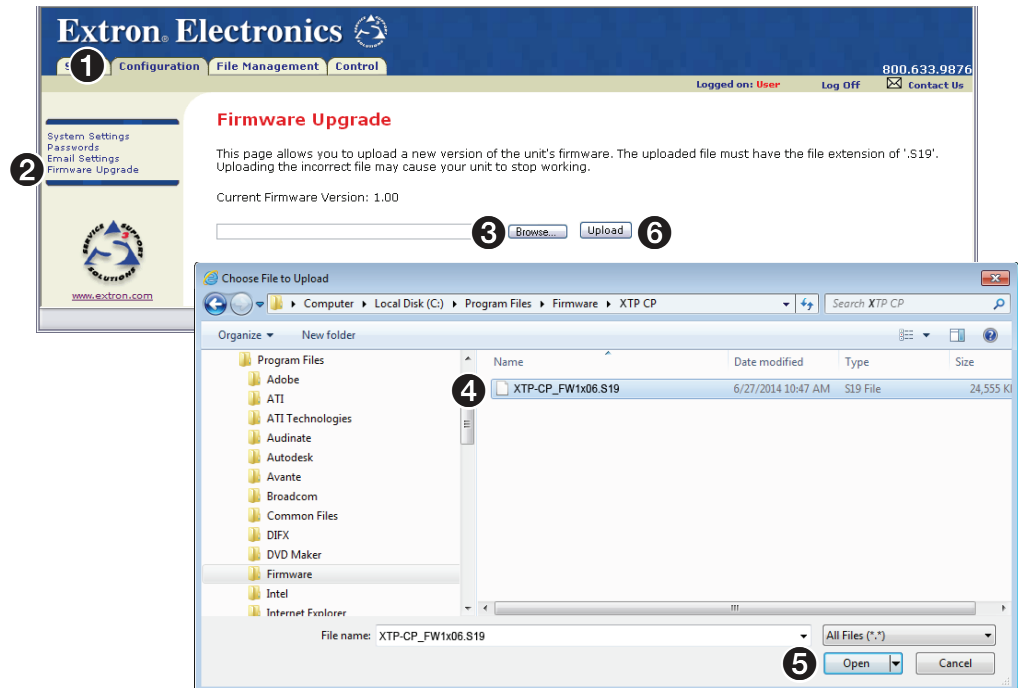

Figure 66. Firmware Upgrade
3. Click the **Configuration** tab (see figure 66, 1).